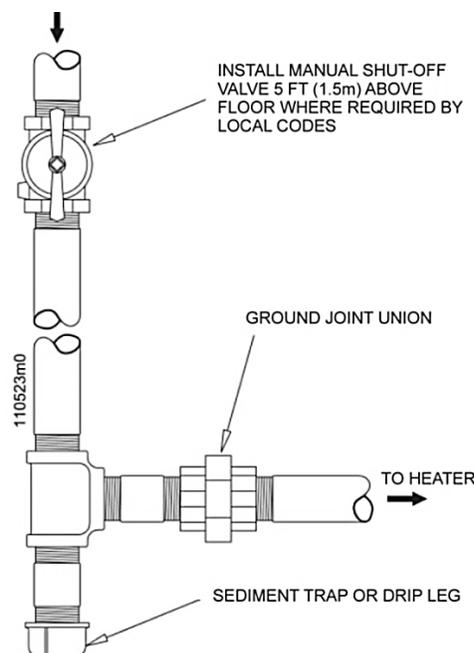

Figure 7-1: Gas Supply Piping Connections
1. Refer to Figure 7-1 for connections necessary to pipe gas to the unit.
2. Install a sediment trap / drip leg. (see Figure 7-1).